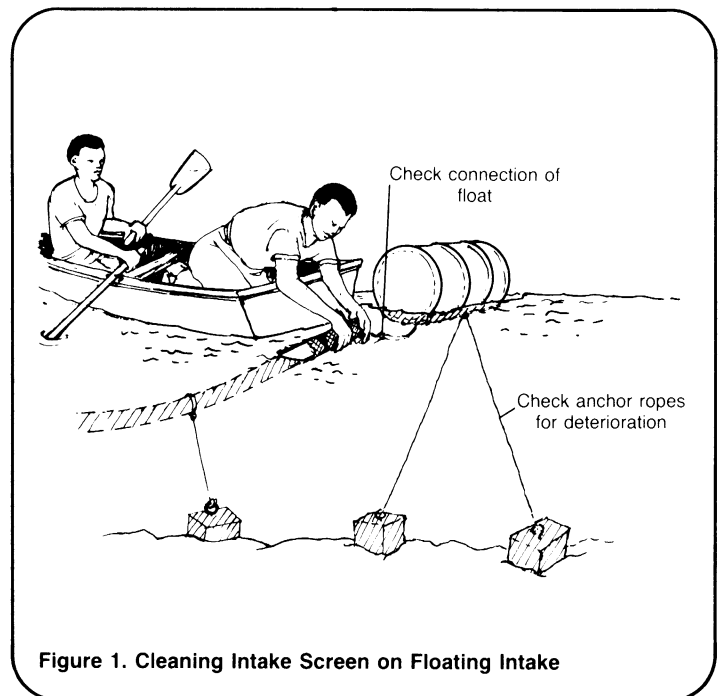

Figure 1. Cleaning Intake Screen on Floating Intake
1. At least once every three months, check the intake screen as shown in Figure 1 to be sure it is not clogged with suspended matter or plant life. For floating intakes, lift the screened section of the pipe from the water and decide if cleaning is necessary. If the screen is dirty, scrub it clean with a brush. If damaged, replace it with a new one. Be sure to shut off the pump before beginning maintenance.